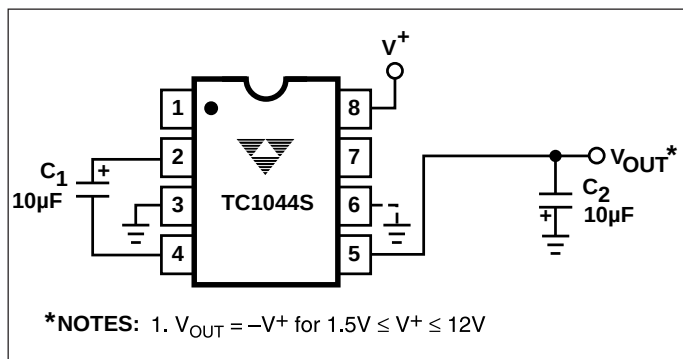
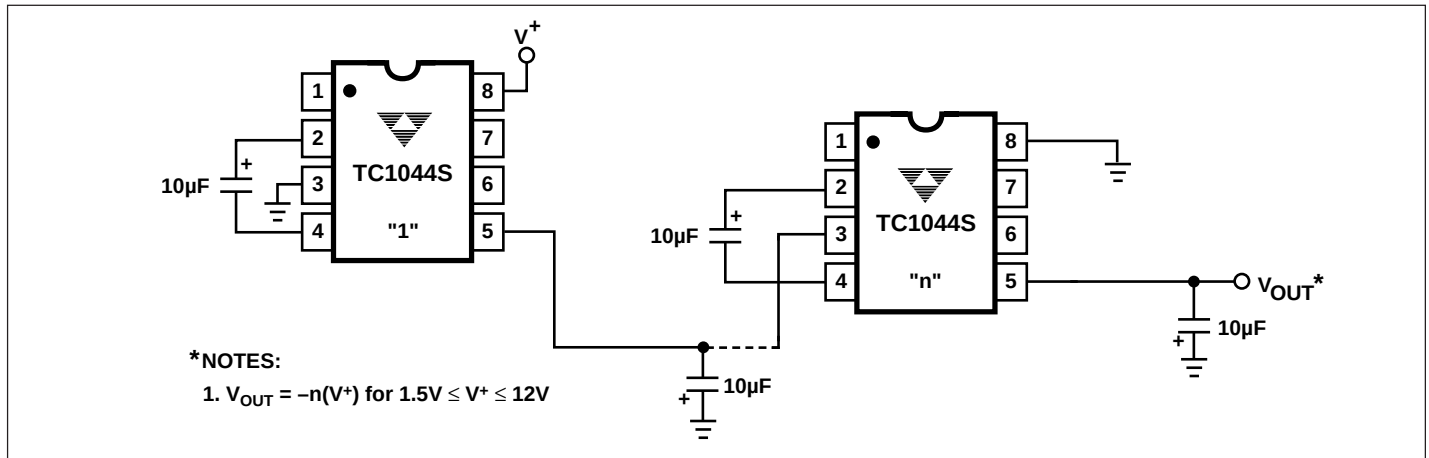
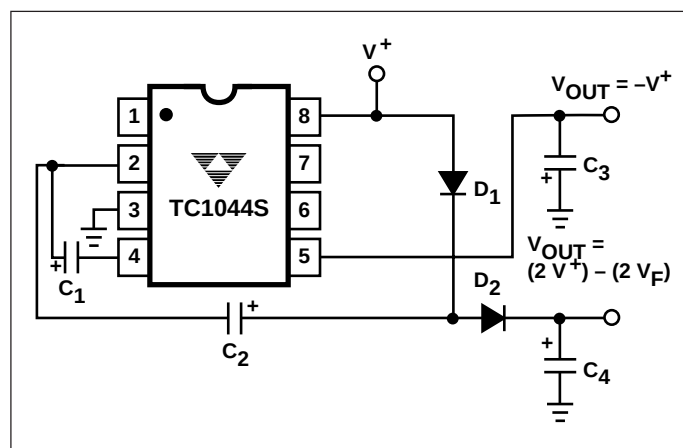
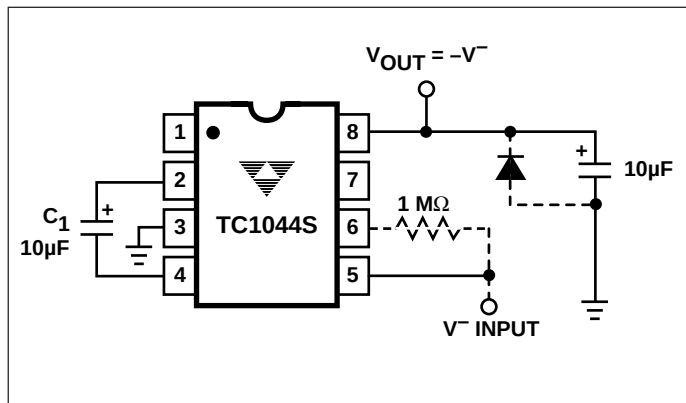

Figure 3. Simple Negative Converter
Figure 5. Increased Output Voltage by Cascading Devices
Figure 9. Combined Negative Converter and Positive Multiplier
Figure 10. Positive Voltage Conversion
Figure 3 shows typical connections to provide a negative supply where a positive supply is available. A similar scheme may be employed for supply voltages anywhere in the operating range of +1.5V to +12V, keeping in mind that pin 6 (LV) is tied to the supply negative (GND) only for supply voltages below 3.5V.
The output characteristics of the circuit in Figure 3 are those of a nearly ideal voltage source in series with 70Ω . Thus, for a load current of $-10mA$ and a supply voltage of $+5V$, the output voltage would be $-4.3V$.
The TC1044S may be cascaded as shown (Figure 5) to produce larger negative multiplication of the initial supply voltage. However, due to the finite efficiency of each device, the practical limit is 10 devices for light loads. The output voltage is defined by:
Figure 9 combines the functions shown in Figures 3 and 8 to provide negative voltage conversion and positive voltage multiplication simultaneously. This approach would be, for example, suitable for generating +9V and -5V from an existing +5V supply. In this instance, capacitors C_1 and C_3 perform the pump and reservoir functions, respectively, for the generation of the negative voltage, while capacitors C_2 and C_4 are pump and reservoir, respectively, for the multiplied positive voltage. There is a penalty in this configuration which combines both functions, however, in that the source impedances of the generated supplies will be somewhat higher due to the finite impedance of the common charge pump driver at pin 2 of the device.
Since the switches that allow the charge pumping operation are bidirectional, the charge transfer can be performed backwards as easily as forwards. Figure 10 shows a TC1044S transforming -5V to +5V (or +5V to +10V, etc.). The only problem here is that the internal clock and switch-drive section will not operate until some positive voltage has been generated. An initial inefficient pump, as shown in
Figure 9, could be used to start this circuit up, after which it will bypass the other (D_1 and D_2 in Figure 9 would never turn on), or else the diode and resistor shown dotted in Figure 10 can be used to "force" the internal regulator on.
The same bidirectional characteristics used in Figure 10 can also be used to split a higher supply in half, as shown in Figure 11. The combined load will be evenly shared between the two sides. Once again, a high value resistor to the LV pin ensures start-up. Because the switches share the load in parallel, the output impedance is much lower than in the standard circuits, and higher currents can be drawn from the device. By using this circuit, and then the circuit of Figure 5, +15V can be converted (via +7.5V and -7.5V) to a nominal -15V, though with rather high series resistance ($\sim 250\Omega$).